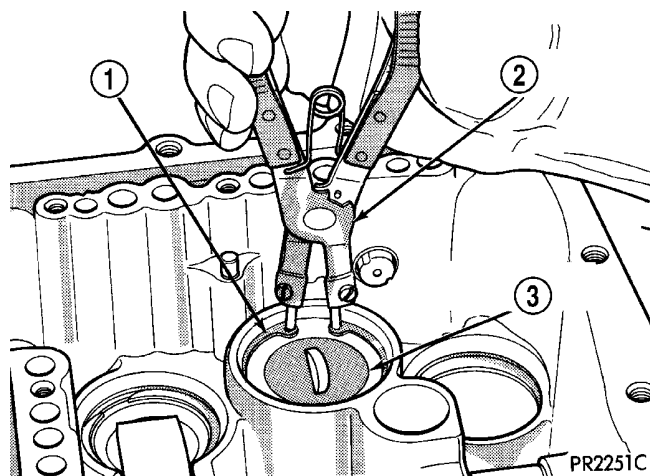

Fig. 71 Accumulator Snap Ring
(31) Install accumulator snap ring (Fig. 71).